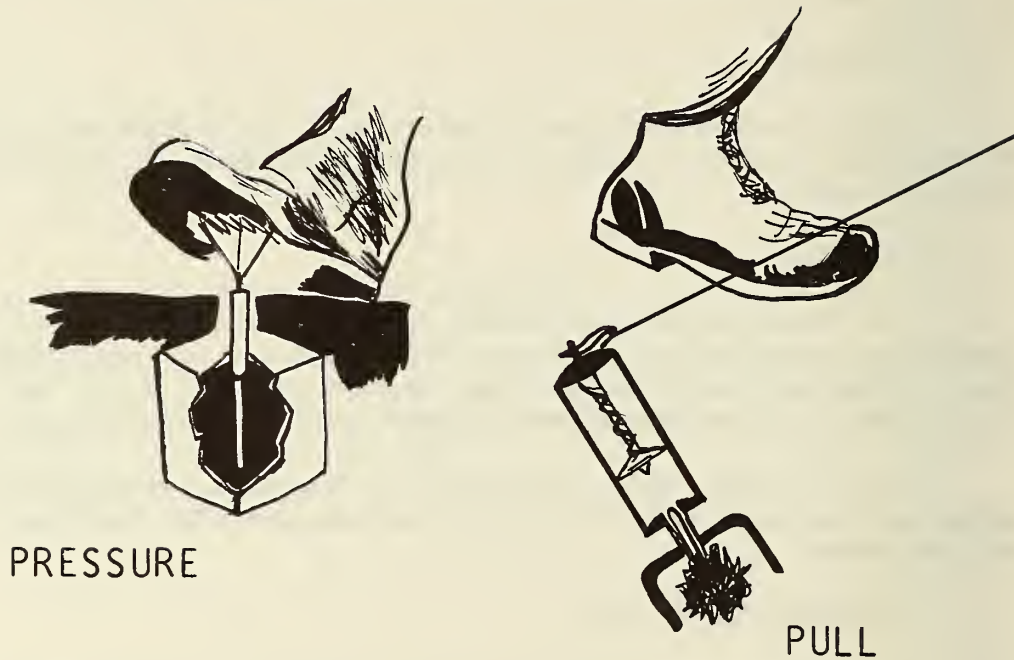

Figure 1
g. The initiating action depends on the design of the fuze. Most fuzes are designed to be initiated by one of the following actions (figures 1,2):
(1) Pressure. The pressure of a man's foot or the wheel or tread of a vehicle causes the fuze to function.
(2) Pressure release. Removing a restraining weight allows the fuze to function.
(3) Pull. A pull on a wire, called a trip wire, attached to the fuze initiates the fuze action.
(4) Tension release. Cutting a trip wire releases the tension needed to keep the fuze from functioning.
(5) Pressure/Pull. Either a pressure or a pull will initiate the fuze action.
(6) Electrical. Closing an electrical circuit initiates the fuze action.